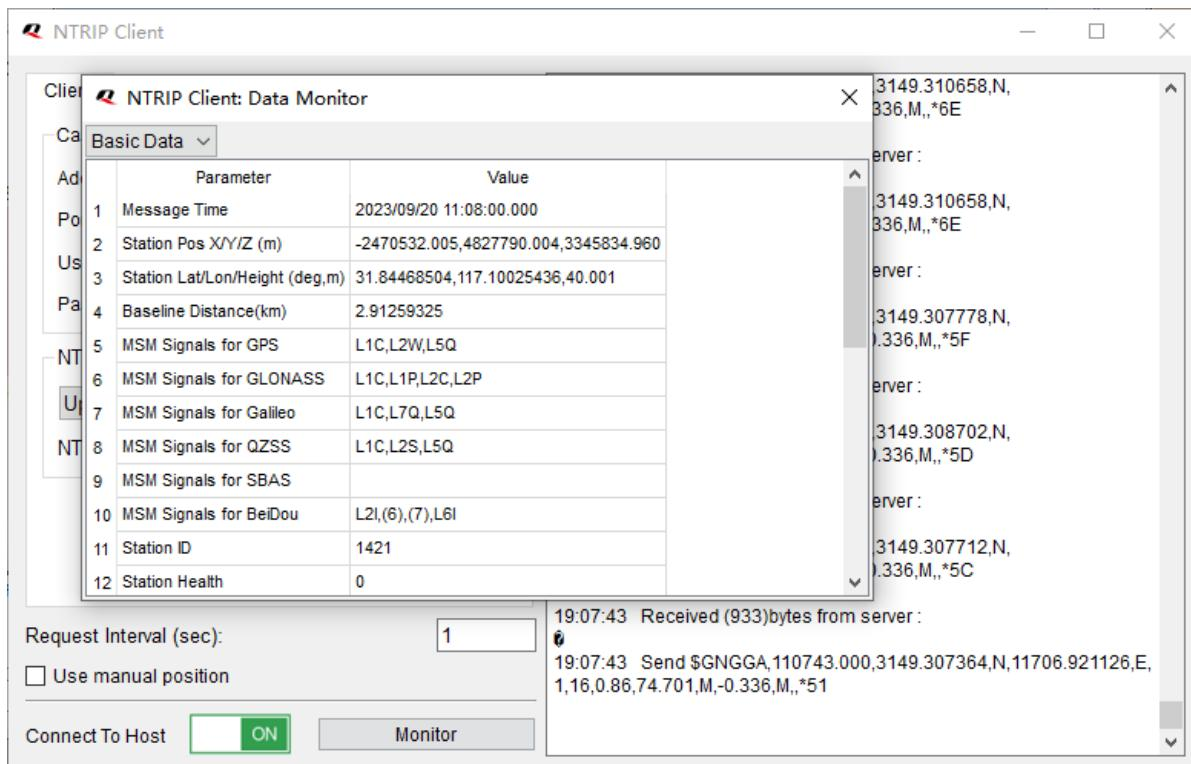

Figure 29: RTK Data Monitor
**Step 7:** Click “**Monitor**” button to open the “**NTRIP Client: Data Monitor**” window where you can view the differential correction data sent by the server, as shown in Figure 29: RTK Data Monitor.